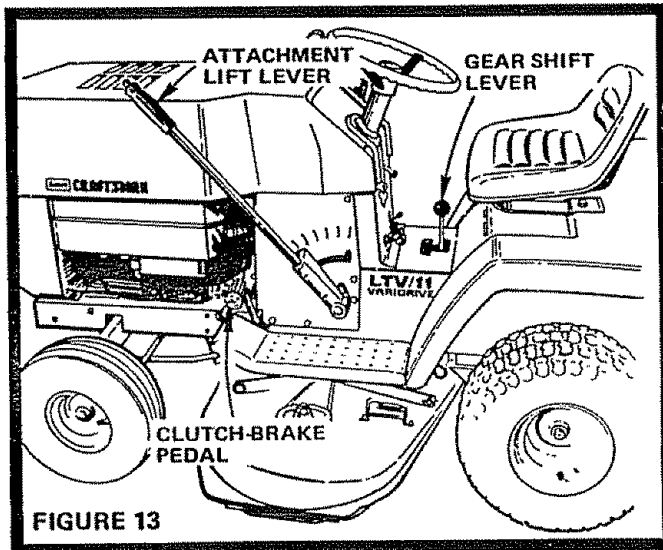
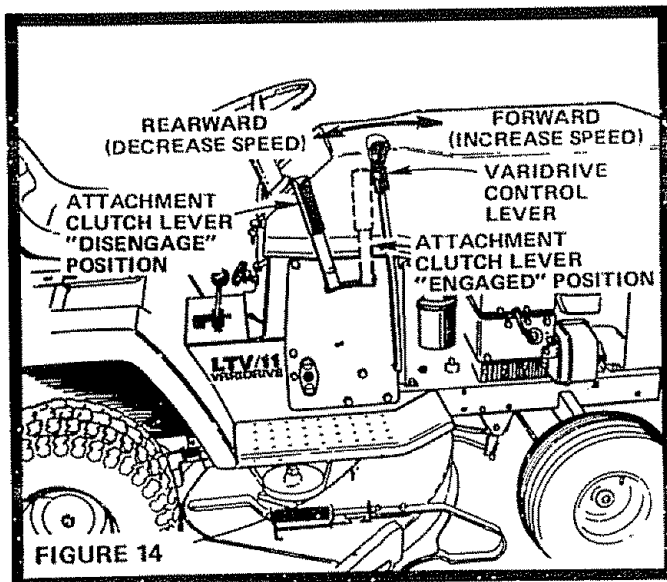

FIGURE 13
FIGURE 14
2. Push Clutch-Brake Pedal (Fig. 13) down firmly to unlock Parking Brake and hold Clutch-Brake Pedal in Brake position.
3. Move Gear Shift Lever to desired gear (Fig. 13)
5. Varidrive Control Lever (Fig. 14) controls ground speed in any of the selected gear ranges of the transaxle. Move Control Lever forward to increase speed, move Control Lever rearward to decrease speed. The Control Lever has a normal range of movement, DO NOT EXCEED THIS NORMAL RANGE OF MOVEMENT BY EXERTING EXCESSIVE PRESSURE ON LEVER. Varidrive Speed Control is especially valuable when load is not uniform. When engine-driven attachments are overloaded, such as with heavy lawn mowing or deep snow throwing, the ground speed may be reduced with the Control Lever to relieve the load while the attachment continues to operate at full speed.
3. Place Attachment Clutch Lever in "DISENGAGE" position (Fig. 14) and lower attachment with Attachment Lift Lever (Fig. 13).
- a. If slowing is necessary, move Varidrive Control Lever (Fig. 14) to slower position.